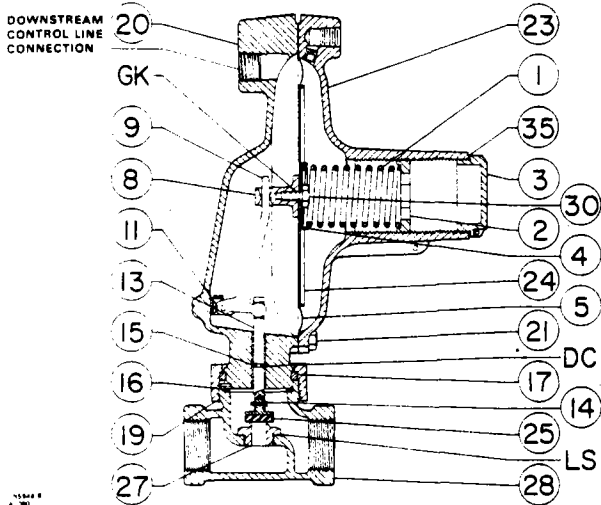

Figure 8. Type Y600-11 Regulator for External Control Line
7. To check the O-ring (key 15, figure 8) in a Type Y600-11, remove the machine screws (key 11) from the lever so the valve stem (key 13) is not held captive by the lever. Slide the valve stem out of the lower casing and inspect the O-ring.